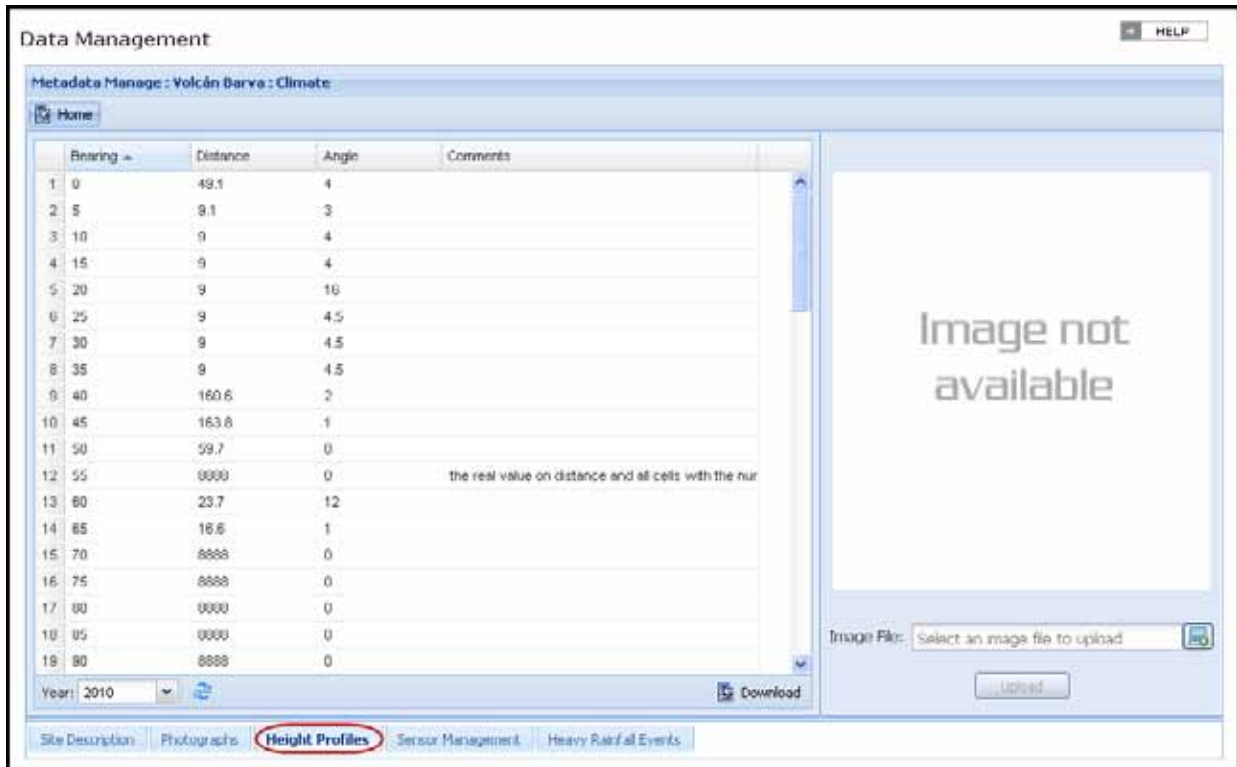

Figure 20. Screenshot of the "Height Profile" tab in the "Climate Metadata" section of the Data Management Tool.
5. **Characterize heights and distances to objects.** These data can be used to construct a height and distance profile of the site where the climate station is located. These measurements should be repeated **every year** to track changes in the physical characteristics of the site. To collect these data, it is best to stand on a ladder at the same height as the solar radiation sensor and to record the measurements from there. Use Figure 20 **Error! Reference source not found.** to get an idea of what the "Height Profile" section looks like in the Data Management Tool.